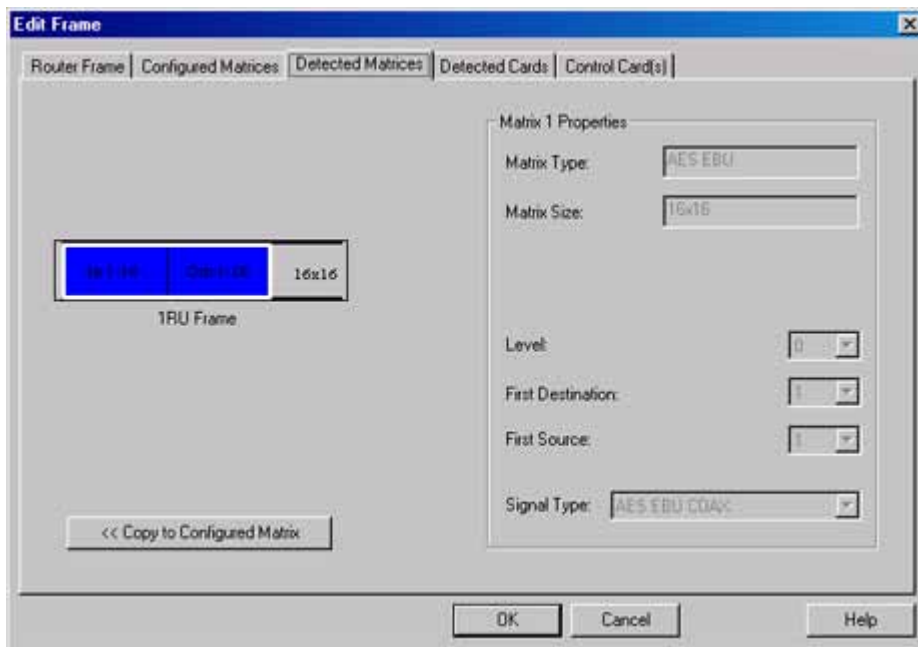

Figure 1-4 Detected Matrices Tab
- 4 Select the Detected Matrices tab. Matrix information should resemble the information shown in Figure 1-4.